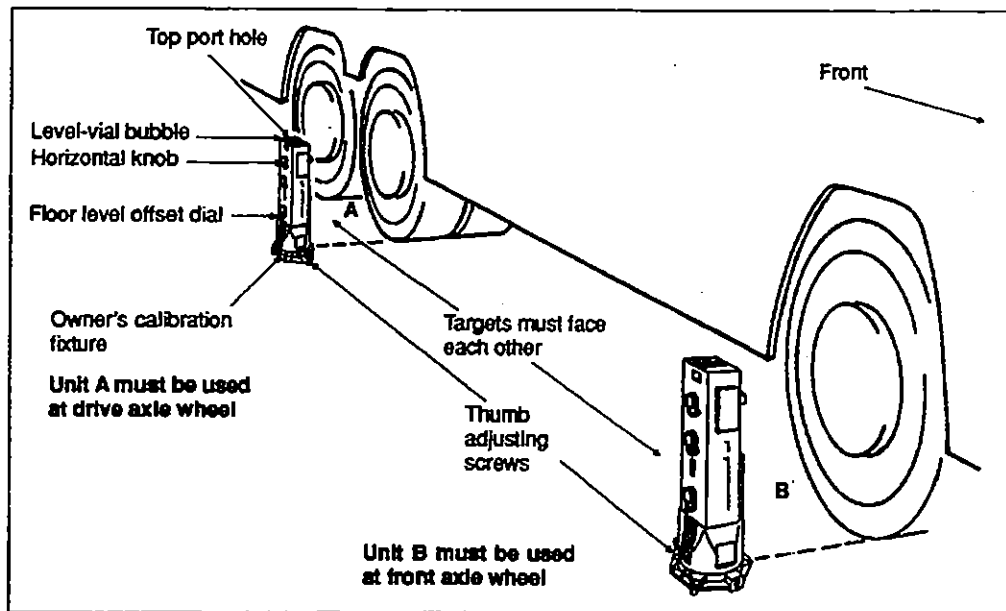

Figure 41
2. Fix one (1) calibration fixture to each aligner.
3. Install aligner in center of each wheel on one side of vehicle. Unit B must be installed beside the front axle wheel with its viewing port facing rearward, and unit A beside the drive axle wheel with its viewing port facing forward. See figure 41 for more details.